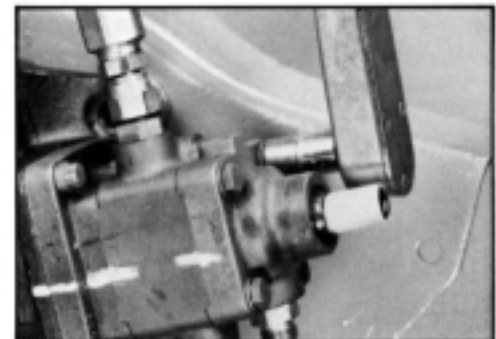

Figure 37
3.12 Assemble the four bolts (6) and washers (6A) into upper cover (7). Carefully torque the bolts while checking that the adaptor (18), valve assembly (15) and upper cover (7) are properly piloted and positioned with all seal rings in place. Torque bolts to 25-35 ft. lbs. (34-47 N m) if dry, or 21-27 ft. lbs. (28-37 N m) if lubricated. SEE FIGURE 37.